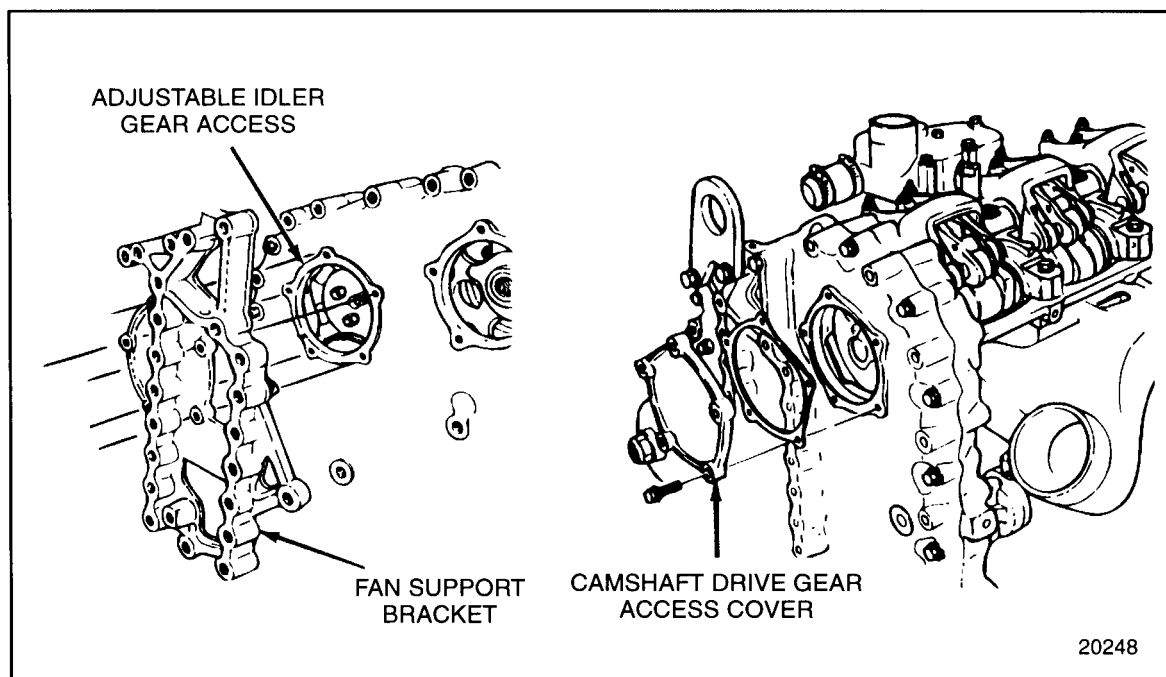

Figure 1-347 **Camshaft Drive Gear Access Cover and Adjustable Idler Gear Access**
Access openings are provided in the gear case cover for camshaft drive gear lash adjustment and camshaft retaining bolt removal. See Figure 1-347.
2. Remove the five bolts that secure the camshaft drive gear access cover to the gear case. See Figure 1-347.